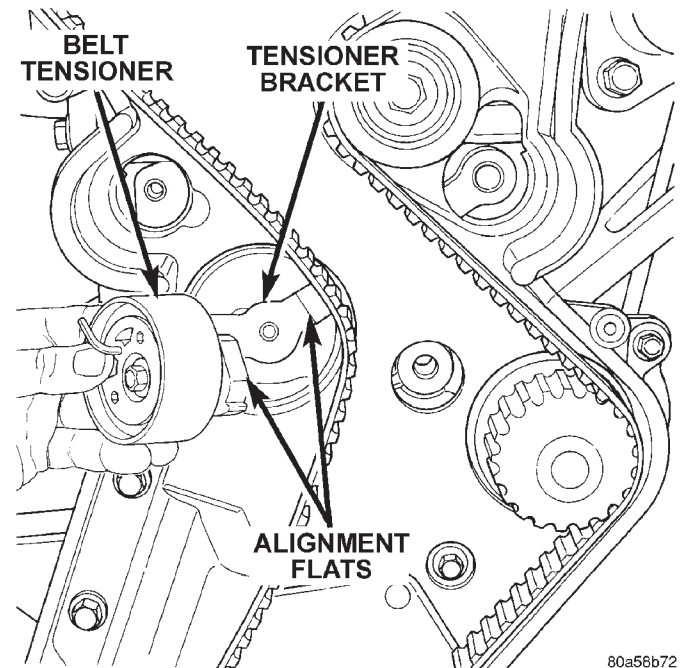

Fig. 56 Tensioner to Bracket Alignment
(1) If replacing timing belt tensioner, remove the bolt from the center of the tensioner. Remove tensioner.
(2) When installing the tensioner align the flat on the tensioner bracket with the flat on the tensioner (Fig. 56).
(3) Torque tensioner center bolt to 28 N·m (252 in. lbs.)